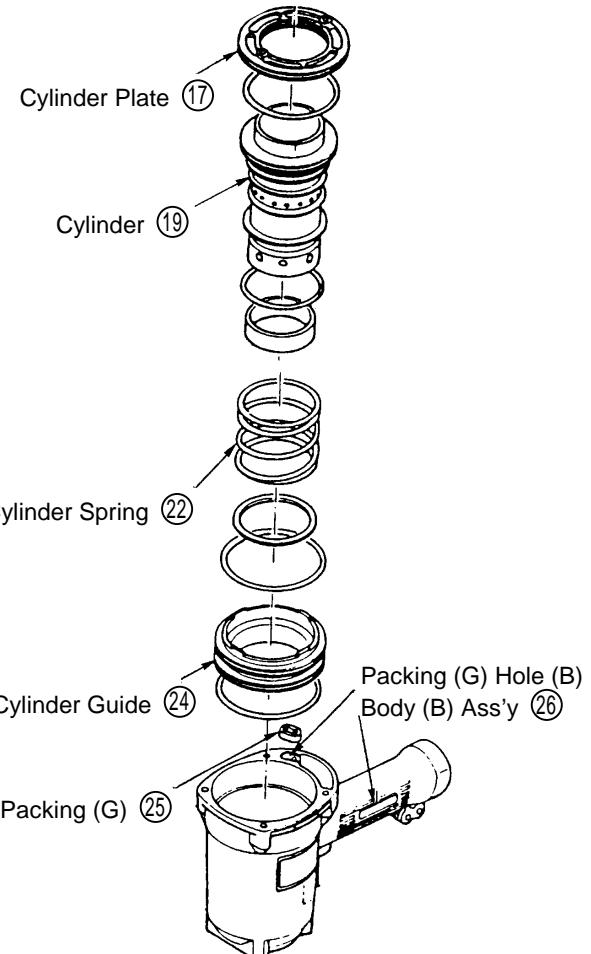
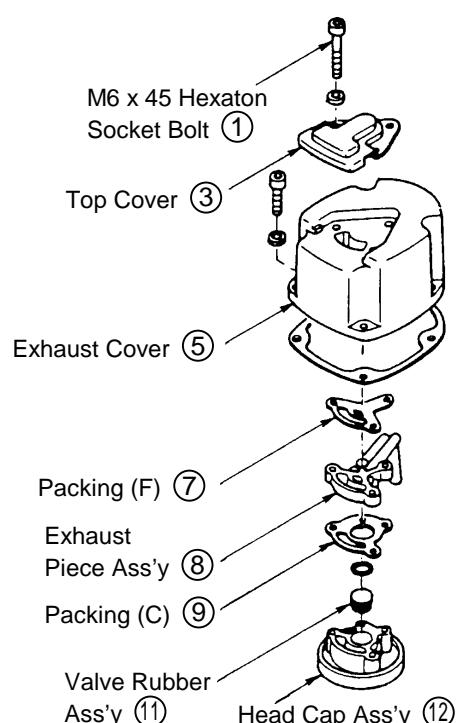

Fig. 11 Main body output disassembly
Fig. 12 Disassembly of main body, upper part:
The Cylinder ⑯, Cylinder Spring ⑰, and other components which constitute the Output System (see Fig. 11) can then be removed.
- As it should be difficult to remove the Cylinder ⑯, first remove the Tail Cover ⑳ as described in section 1-1-(1), and push the Cylinder upwards and out from below.
- Ensure that Packing (G) ㉕ is properly fitted to the shape of its matching hole in the Body (B) Ass'y ㉖, properly aligned with the assembly as shown in Fig. 11, and properly contacts the base of the Exhaust Piece Ass'y ⑧ (see Fig. 12).
(3) Head Cap Ass'y ⑫ Exhaust Piece Ass'y ⑧, and Related Parts:
- Remove the Exhaust Cover ⑤ as described in section 1-1-(2).
- Loosen the three M6 x 45 Hexagon Socket Hd. Bolts ① and, as illustrated in Fig. 12, remove the Head Cap Ass'y ⑫ Valve Rubber Ass'y ⑪, Exhaust Piece Ass'y ⑧, Packing (C) ⑨, and Packing (F) ⑦.